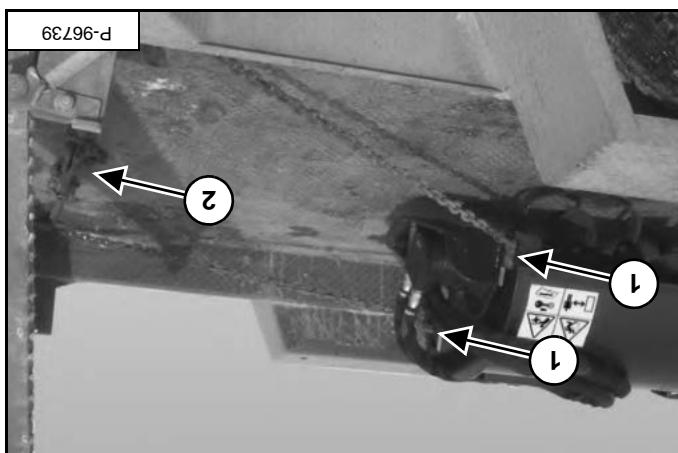
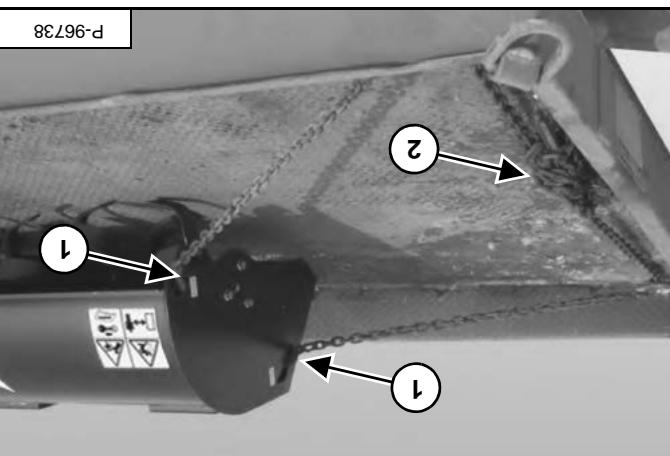

Figure 82
Figure 81
Use chain binders (item 2) [Figure 81] and [Figure 82] to prevent the tiller from moving during transportation.
Install chain(s) (item 1) [Figure 81] and [Figure 82] to the four tie down locations (two on each end), then fasten the chains to the transport trailer.